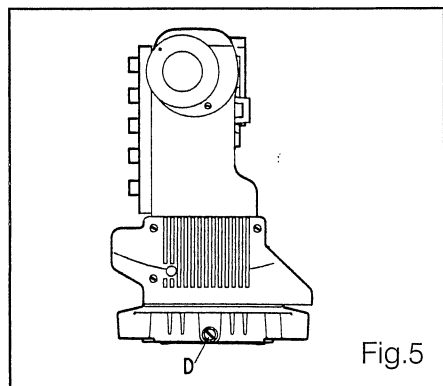

Fig.5
1. Loosen screw (D), drain all the oil from the tank, then fasten the screw. (Fig.5)